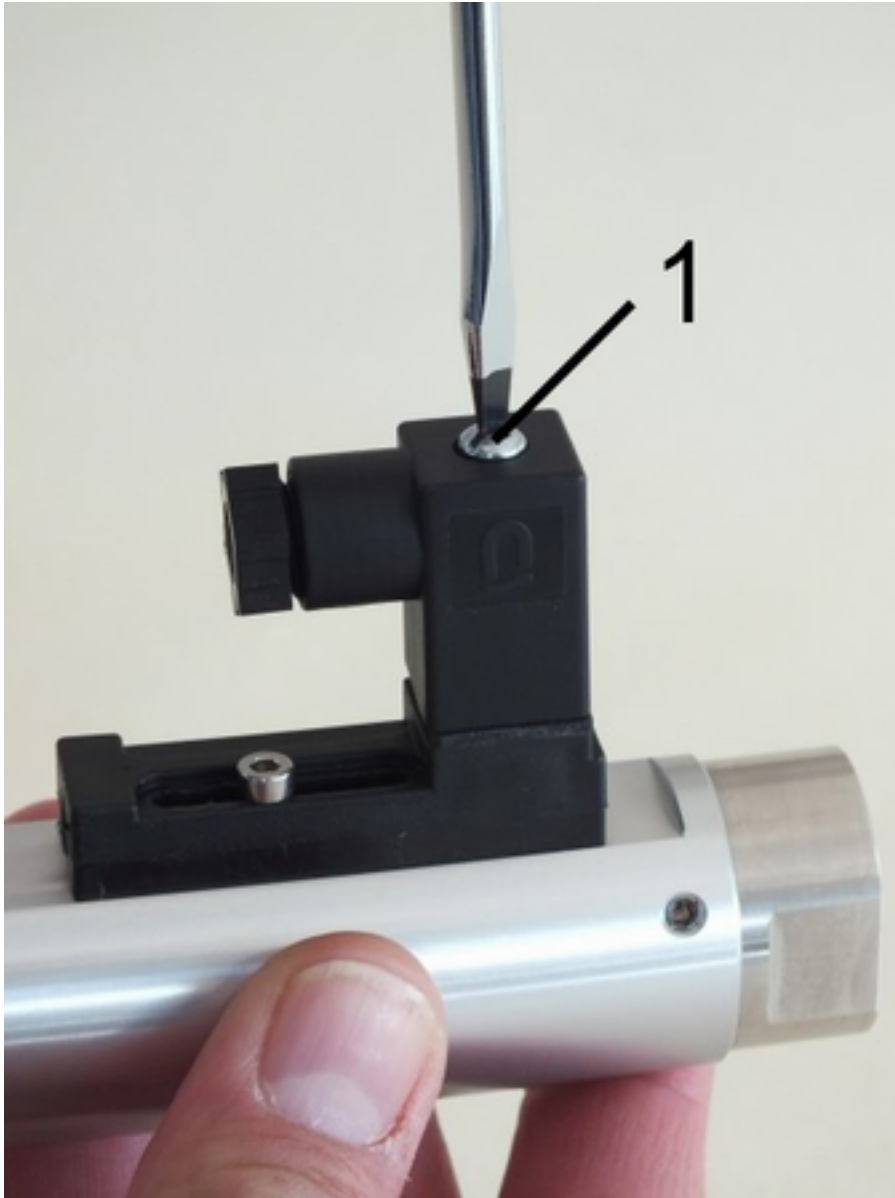

Fig. 52: Loosen female socket
1. ➤ Loosen the fixing screw (*Fig. 52/1*) of the female socket with a flat-bladed screwdriver.